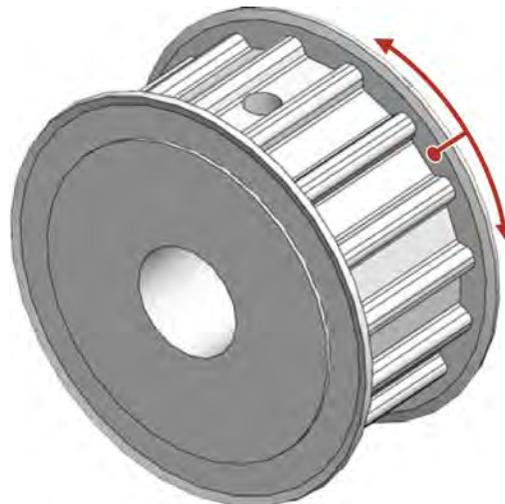

Figure 4-9: Lubricate the Pulley Flanges
12. Add small amounts of Parker Super O-Lube lubricant around the circumference of both pulley flanges (Figure 4-9).